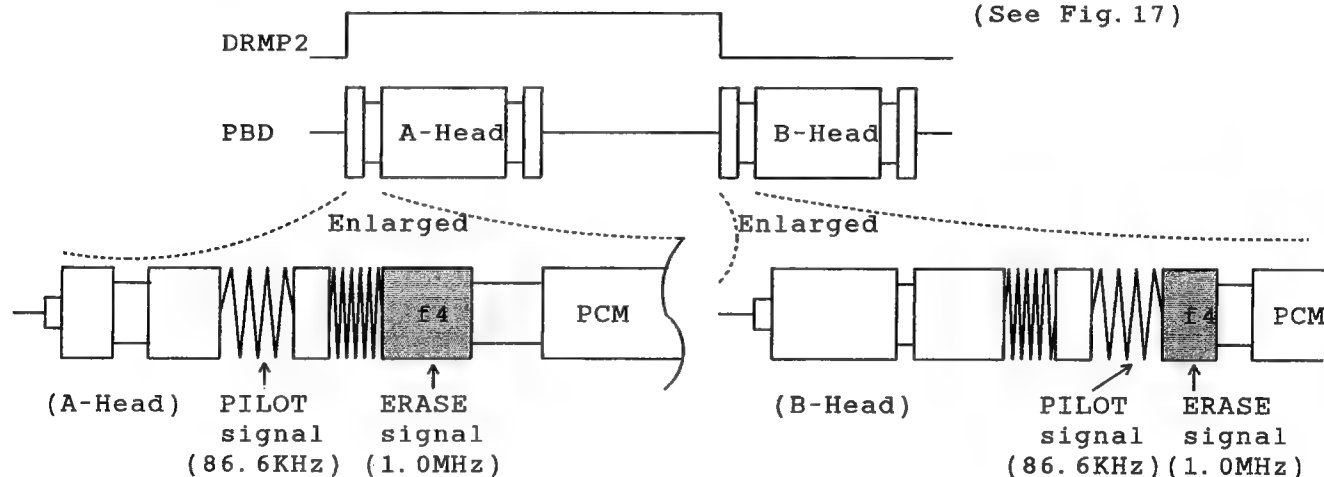

Fig. 17
3. Using "Delay" function of oscilloscope, enlarge ATF part. (See Fig. 17)